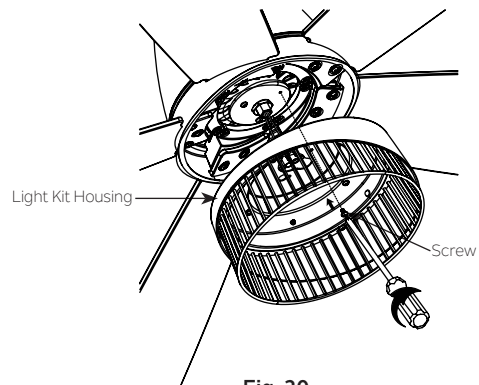

Fig. 20
Step 2. Place the two slot holes on the light kit housing over the 2 screws previously loosened from the mounting plate. Rotate the light kit housing until it locks in place at the narrow end of the key holes. Secure by tightening the 2 screws previously loosened and the one previously removed. (Fig. 20)